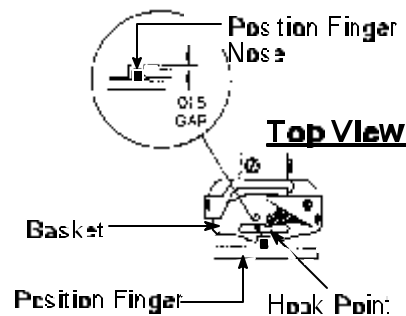

Figure 1
4. **Move** Position Finger **left or right**, centering Position Finger Nose with needle. See *Figure 1*.